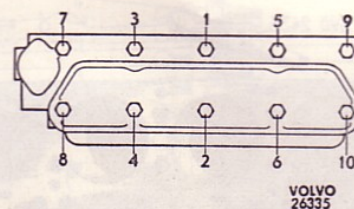
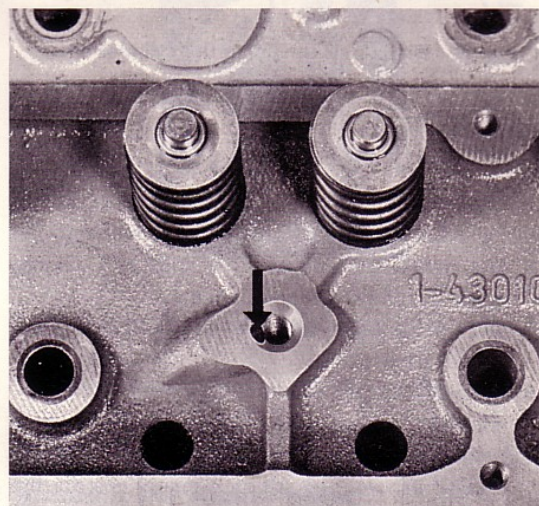
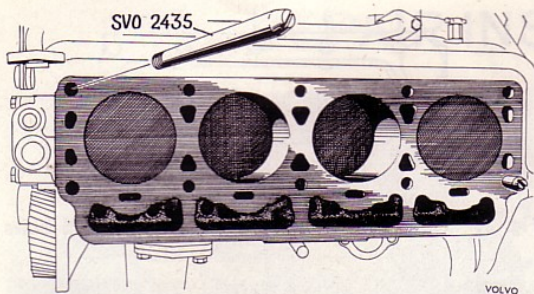

Fig. 23 Tightening sequence for cylinder head bolts
Fig. 24 Oil hole in cylinder head
Fig. 26 Guide pins for fitting the cylinder head
The cylinder head is fitted with the help of guide pins (SVO 2435). The bolts must be tightened in a certain sequence as shown in Fig. 23, in order to avoid unnecessary stresses. Check that the oil hole (Fig. 24) for lubricating the rocker arms is clear. Note that the cylinder head gasket for the B 20 A engine is thicker than that for the B 20 B unit, see "Specifications".
9. Fit the valves. Screw the guide pins SVO 2435 into the block, one in the front right-hand hole and the other in the left-hand rear hole, see Fig. 26. Install a new cylinder head gasket and new sealing rings for the water pump and fit the cylinder head. Screw out the guide pins and fit the bolts in these holes as well. For tightening sequence and tightening torques, see Fig. 23. The tightening torque is 8.5–9.5 kgm (61–69 lb.ft.). Fit the other parts. Fill up with coolant according to the instructions given under "Filling with coolant when the system has been emptied".
3. Screw down the guide pins SVO 2435, one in the front right and one in the rear left bolt hole, see Fig. 26. Fit a new cylinder head gasket and then fit the cylinder head. Note that the cylinder head gasket for the B 20 A engine is thicker than the gasket for the B 20 B unit, see "Specifications". Screw in the cylinder head bolts lightly. Remove lastly guide pins and also fit bolts in these holes as well.
- Tighten the bolts in the correct order and to the correct torque. See Fig. 23 and "Specifications".